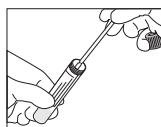
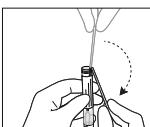
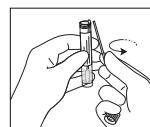

Fig. 2
Fig. 3a
Fig. 3b
- **for swab with breaking point:** insert the swab into the tube until the breaking point reaches the level of the opening of the tube (Fig. 2). Bend and break the swab at the breaking point holding the tube away from the face. If needed gently bend the swab shaft up to 180 degrees angle and rotate the swab shaft to complete the breakage (Fig. 3a and Fig.3b). Discard the upper part of the swab shaft.